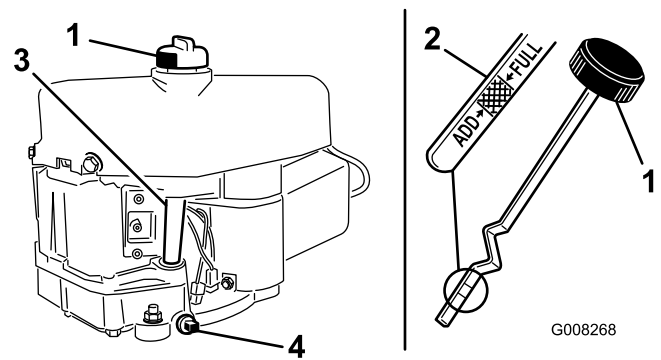

Figure 24
7. Clean around the dipstick (Figure 24) so that dirt cannot fall into the filler hole and damage the engine.
8. Unscrew the dipstick and wipe the metal end clean (Figure 24).
9. Screw the dipstick fully onto the filler tube (Figure 24).
9. Remove the drain plug to allow the oil to drain (Figure 24).
11. Clean around the dipstick and unscrew the cap (Figure 24).
12. Slowly pour approximately 80% of the engine oil into the filler tube (Figure 24).